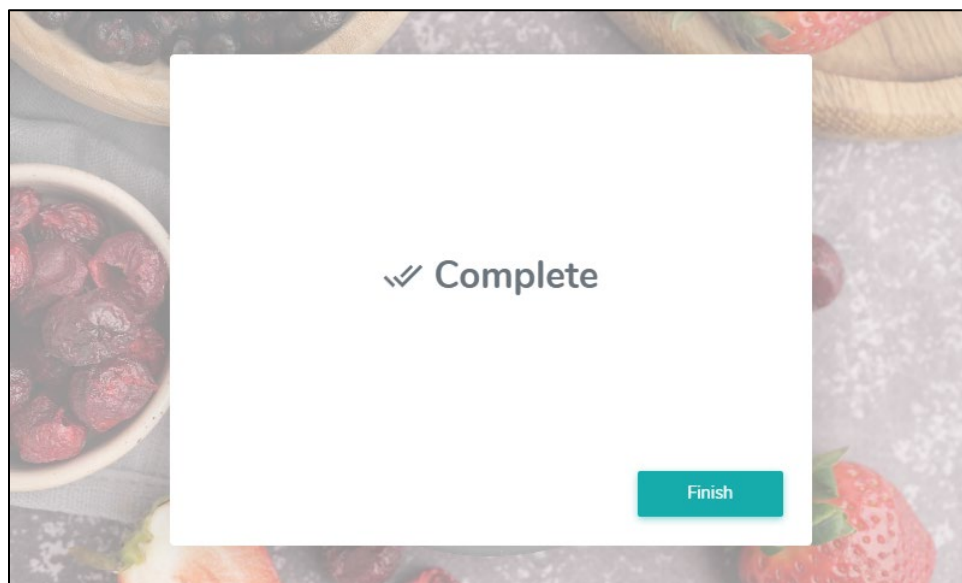

Figure 14
9. The initial setup is now complete (Figure 14). Tap 'Finish' to go to the *Dashboard* page.